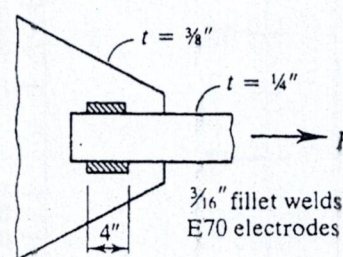

Fig. 3.1
- (b) Find out the capacity of the connection as shown in the fig. 3.1, considering E70XX weld and A-36 base metal. 6